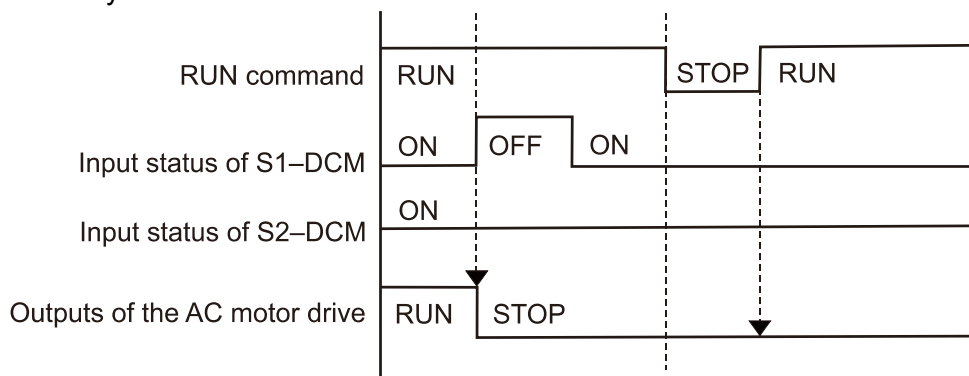

Figure 8
As shown in Figure 8, when S1-DCM is OFF during operation (STO function is required) and S2-DCM is ON (STO function is not required), the drive stops outputting and the keypad shows the STL1 error. However, you cannot reset the STL1 error even if the S1 status is restored (ON) regardless of the parameter setting. You must cycle the power to reset and to restore the drive to the normal standby state.